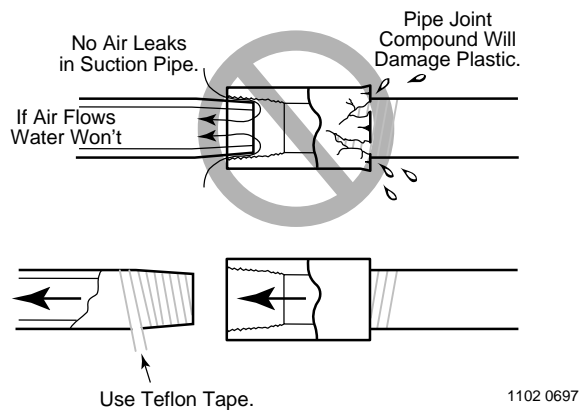

Figure 1 – Suction pipe must not leak
7. No air leaks in suction pipe. Use Teflon tape or Plasto-Joint Stik to seal pipe joints. Do not use pipe joint compound.(Fig. 1).